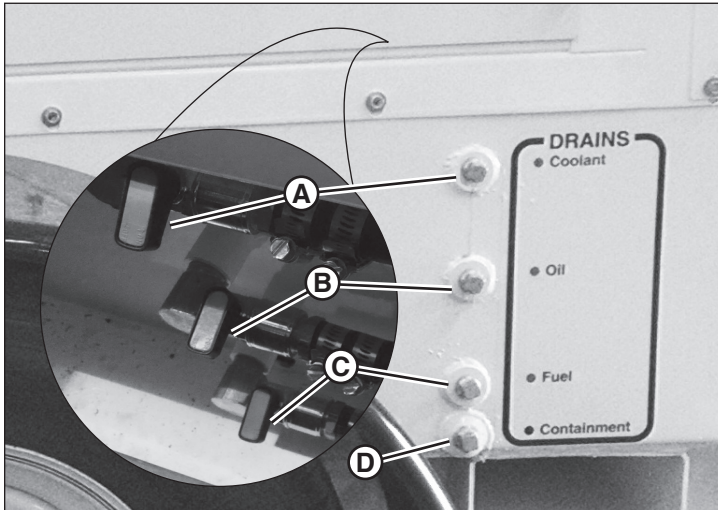

Figure 28
The fluid drain station (Figure 28) is equipped with convenient drains for all of the essential heater trailer fluids. Each drain has a separate control valve, and is identified by a color:
There is also a drain for the fluid containment tray (D, Figure 28) built into the bottom of the heater trailer to catch excess fluids that may have leaked or spilled. This tray also has two larger auxiliary drains at the rear of the trailer, one on either side. See Features and Controls.
*NOTE: The fluid containment drain (D, Figure 28) is not equipped with a control valve, and will begin to empty*